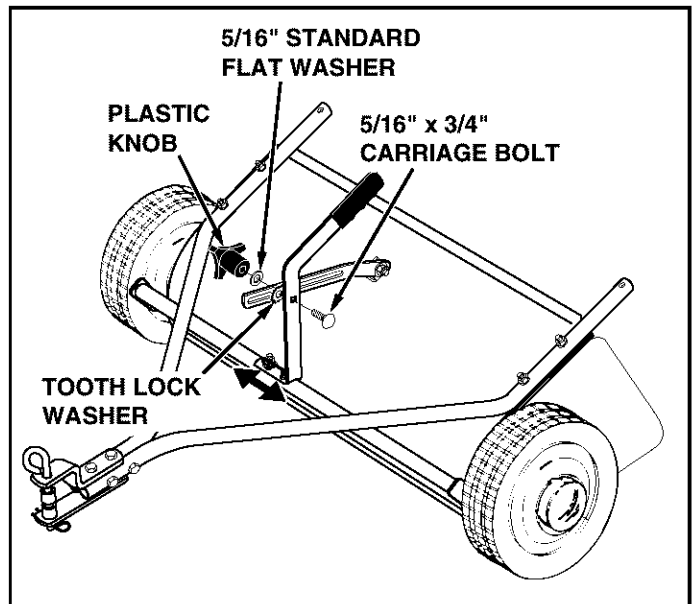

FIGURE 8
- Position the height adjustment handle side to side so that the tooth lock washer can fit between the handle and the height adjustment strap. **Tighten** the nuts securing the height adjustment handle. See figure 8.
- Insert the 5/16" x 3/4" carriage bolt through the height adjustment handle. Assemble onto the bolt (in order) the 5/16" tooth-lock washer, the height adjustment strap, a 5/16" standard flat washer and the plastic knob. See figure 8.